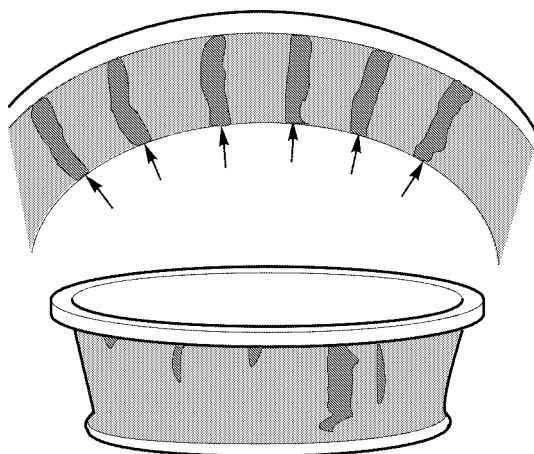

Figure 9.
- (5) Spalling or flaking on the bearing cup and/or cone surfaces. Refer to Figure 9.